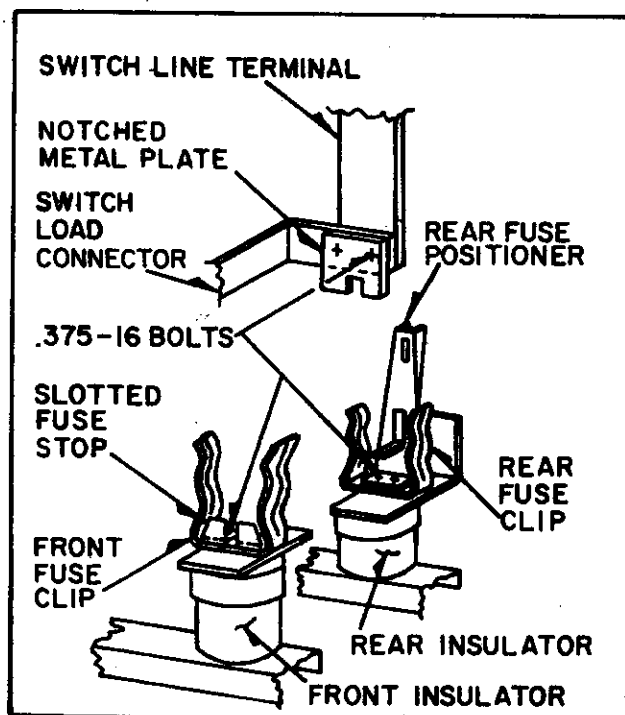

FIG. 1
- 4) Loosen the .375-16 hex bolts that attach the rear fuse clip to the rear insulator. Back one of the bolts out approximately .25 inches and completely remove the other bolt. (see FIG. 1)
- 5) Install the rear fuse positioner bracket by slipping the slotted hole under the flat washer of the .375-16 bolt that was backed off .25 inches. Re-install the other bolt and tighten both securely. (see FIG. 1)
- 6) Install the notched metal plate to the front of the switch load connector with the notch pointing down. Use the same hardware. (see FIG. 1)
- 8) Remove the solid fuse stop and discard. Install the slotted one by slipping the slotted hole under the flat washer of the bolt that was backed out .25 inches. Re-install the other bolt and tighten both securely. (see FIG. 1)